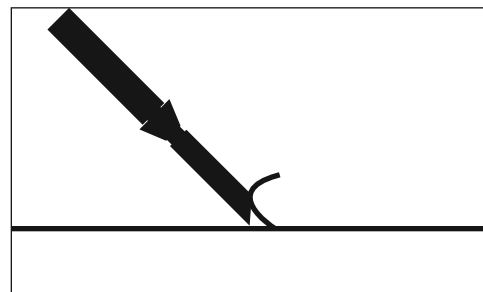
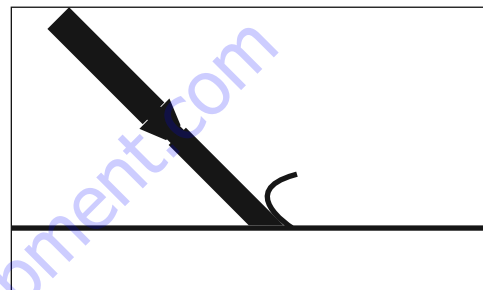

FIG. 3
FIG. 3.1
- Normally, bevel on the blade is up for concrete (Figure 3); bevel down for wood (Figure 3.1).